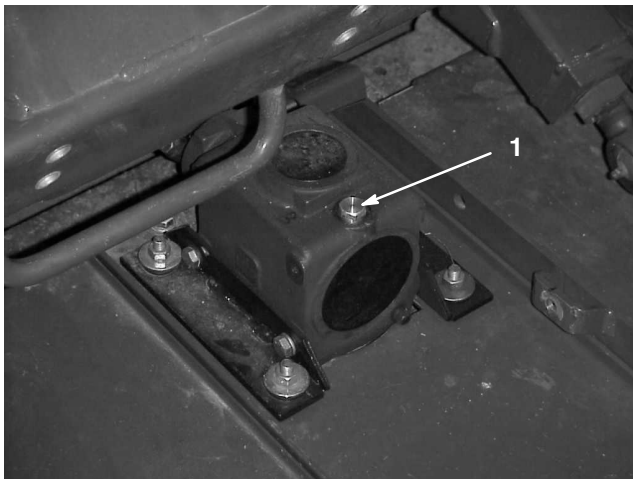

Figure 5
2. Remove the dipstick/fill plug from the top of the gear box (Fig. 5) and make sure that the lubricant is between the marks on the dipstick. If the lubricant level is low, add enough lubricant until the level is between the marks.